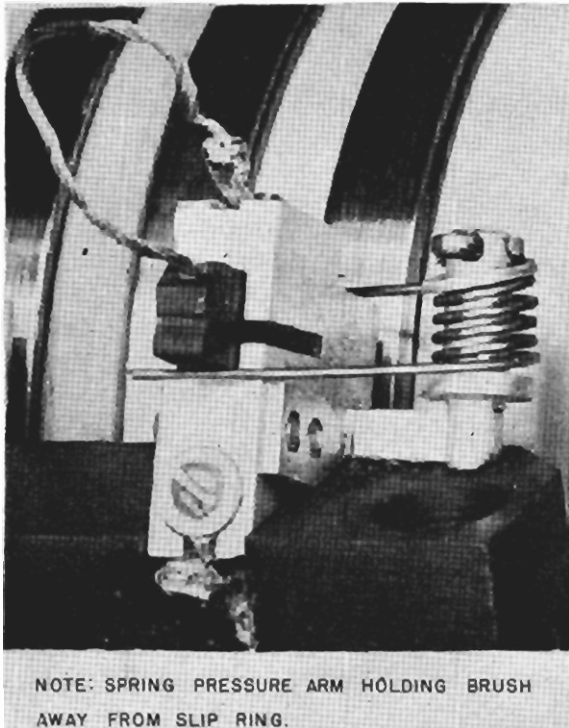

FIGURE 3.—Method of securing brushes.
- (1) Turn amplifier switch to OFF position.
- (2) Lift brushes from slip rings and secure in place, letting brush spring pressure arm ride on underneath side of brushes. See Figure 3.